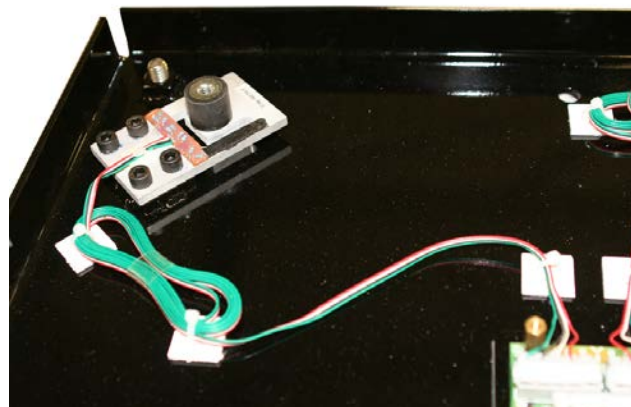

Figure 4-2. Load Cell and Wire Placement
10. Secure the cable in position with the adhesive-backed cables tied supplied in the hardware kit. See Figure 4-2 for an illustration of load cell and cable placement.